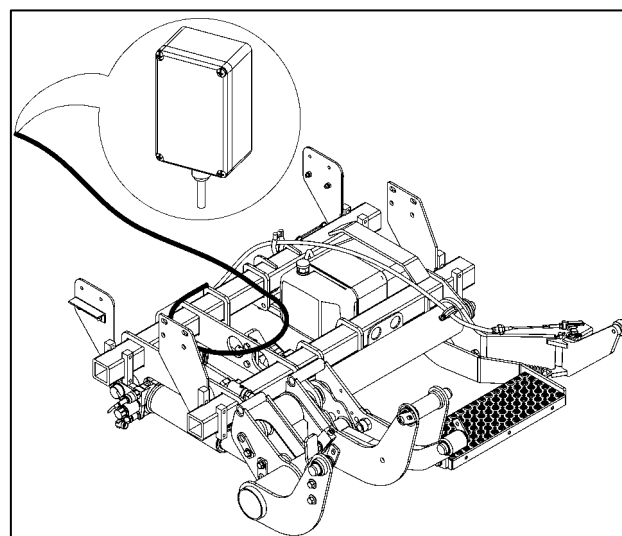

Fig. 16
- Route the control unit cable for service switch connection to the vehicle cargo area (Fig. 16).